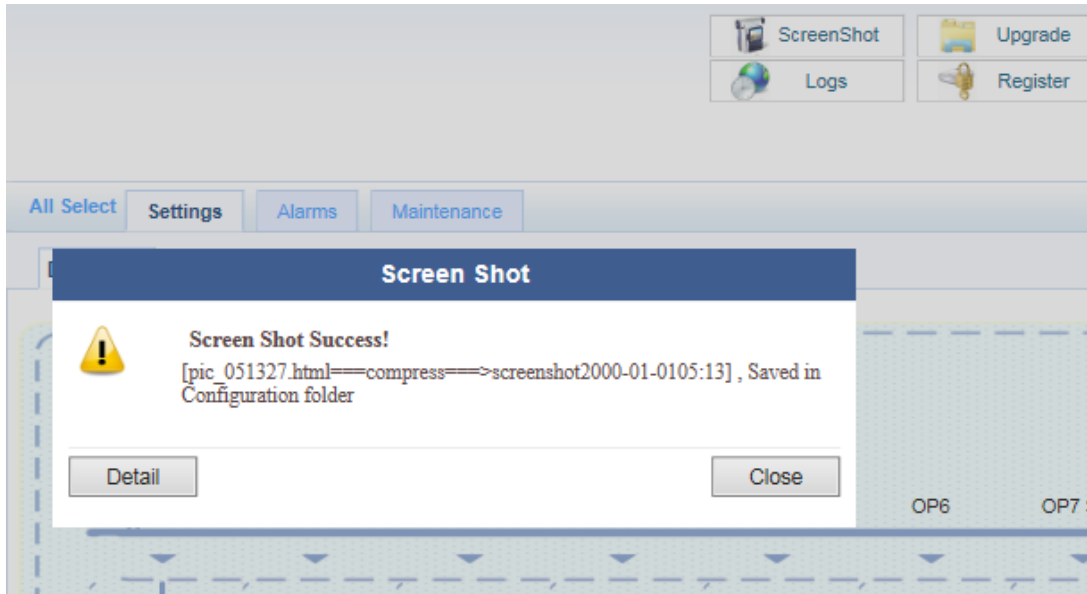

Figure 3-12 Screen Shot Capture Success Pop-up Window
- d) Close the prompt dialog box after the screen shot has been successfully captured as shown in Figure 3-12.